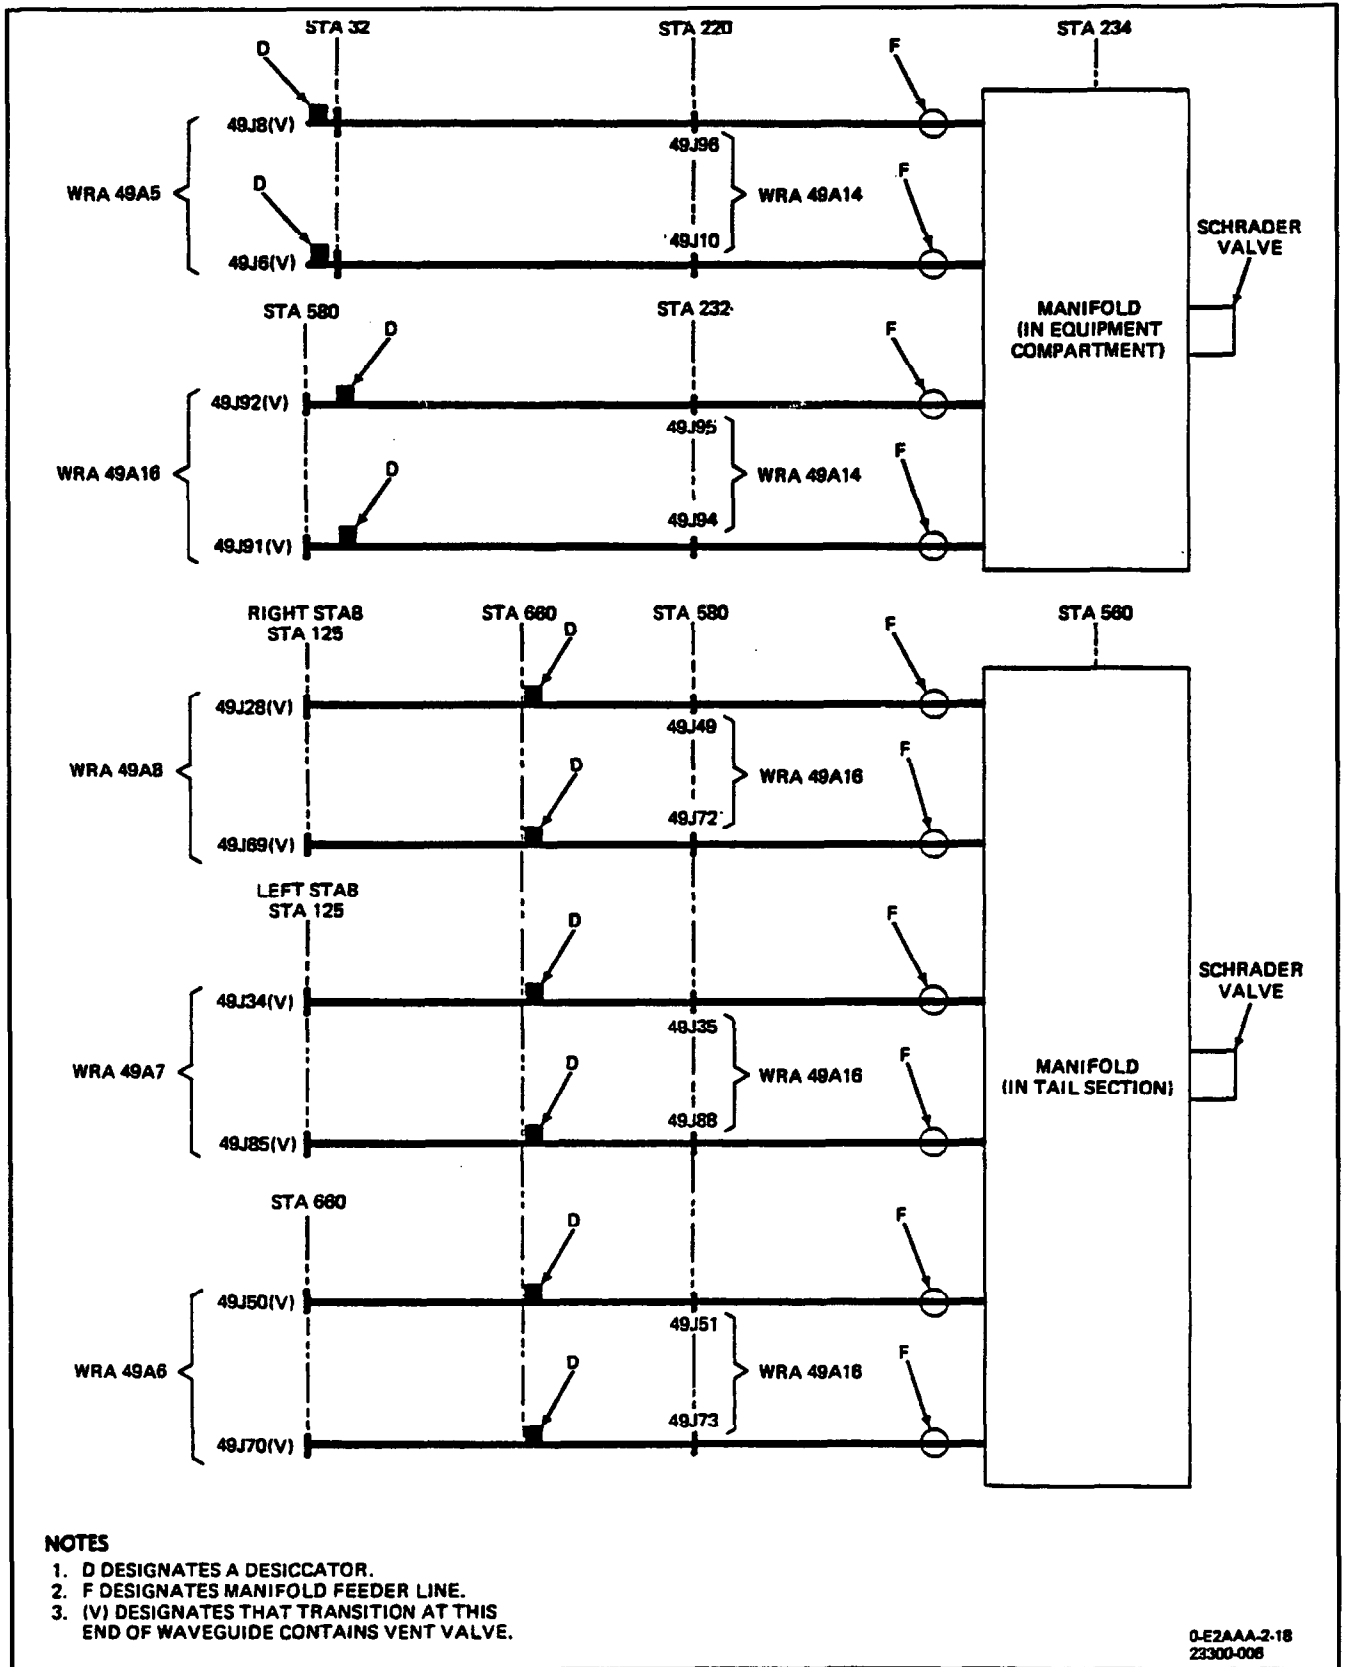
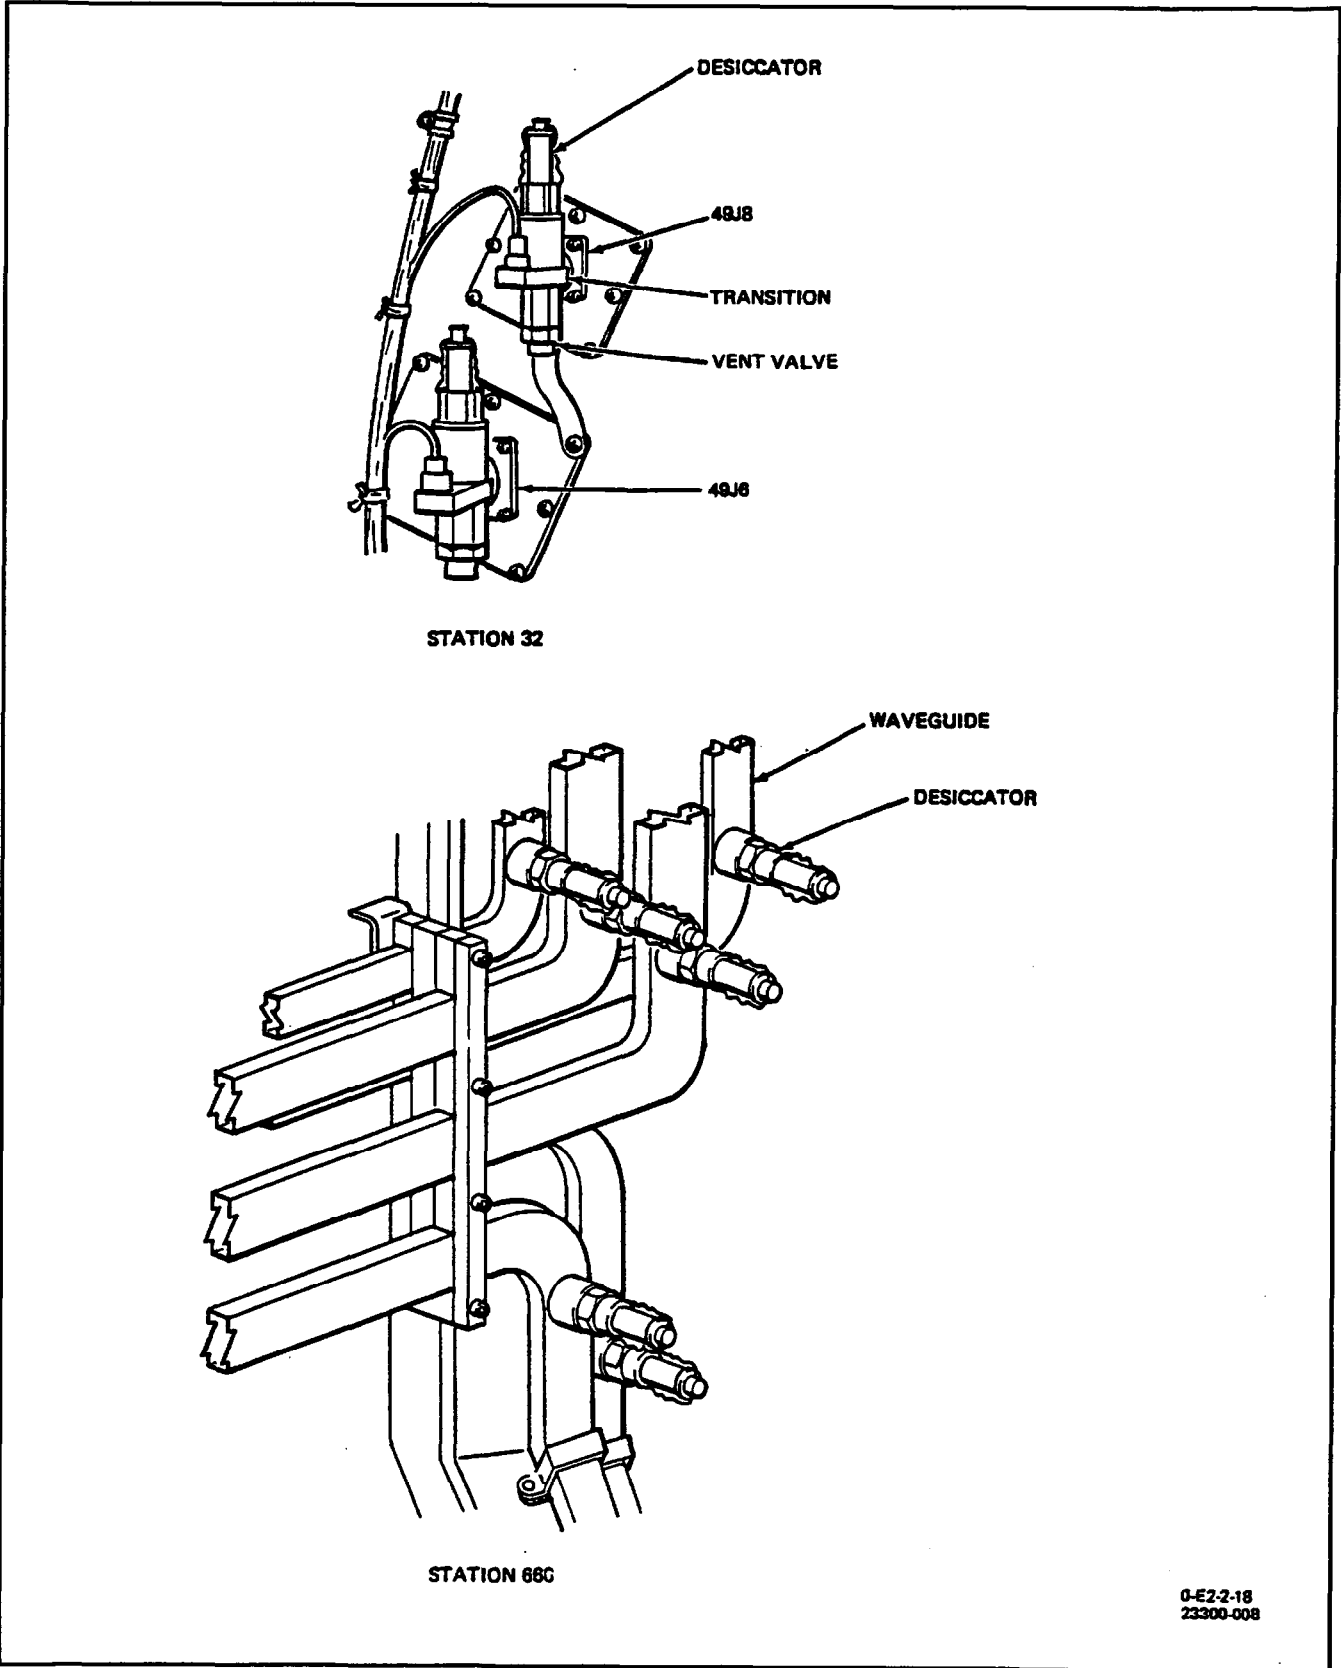

Figure 6. Configuration 2 - Purging Diagram
Figure 8. Configuration 2 - Identification of Desiccators and Vent Valve
There are two manifolds used for purging. One is in the equipment compartment and one is in the tail section. (See figures 6 and 7.)
c. While one man applies nitrogen supply pressure of approximately 25 PSIG to manifold, have other man check that nitrogen is flowing out of vent valves (figure 8) located at transition ends of waveguides associated with that manifold. (See figure 6.)
f. Replace desiccant in desiccators installed on waveguides associated with manifold (figures 6 and 8) as described in paragraph 21.